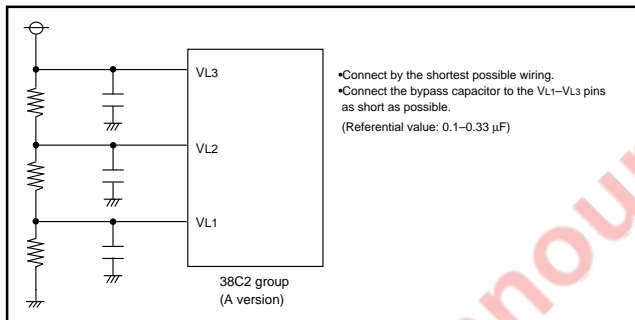

Fig. 9 Strengthening measure example of LCD drive power supply
(1) Power supply capacitor may be insufficient with the division resistance for LCD power supply, and the characteristic of the LCD panel. In this case, there is the method of connecting the bypass capacitor about 0.1–0.33 μ F to VL1–VL3 pins. The example of a strengthening measure of the LCD drive power supply is shown in Figure 9.